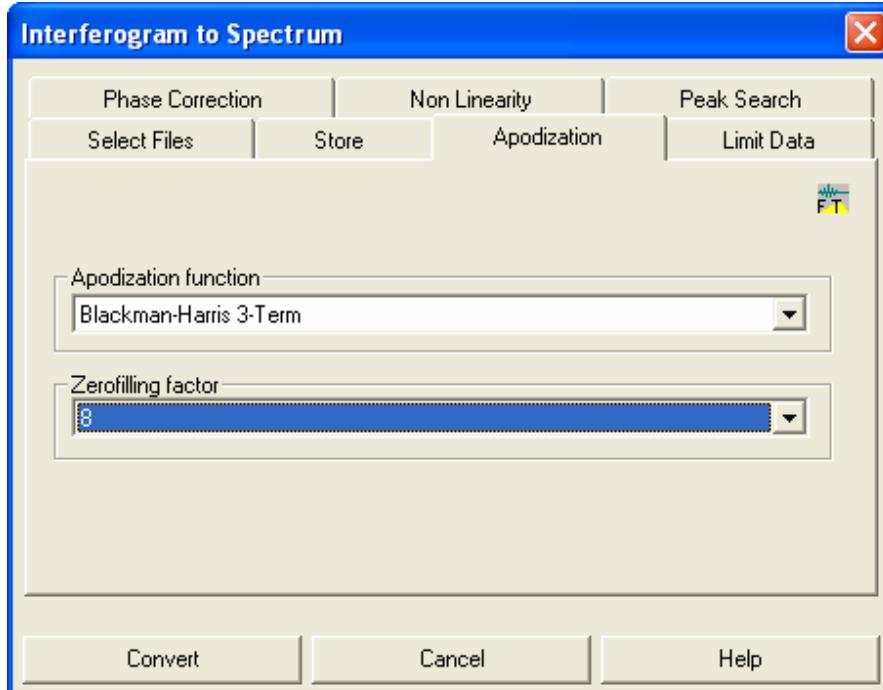

Fig. 20: "Interferogram to Spectrum" dialog window - "Apodization" page
- The parameters on the "Apodization" page (fig. 20) are identical to those on the corresponding page of the standard "Measurement" dialog window. The parameter settings shown in fig. 20 are useful for this kind of experiment, however, you can also try out other apodization functions and zero filling factors.